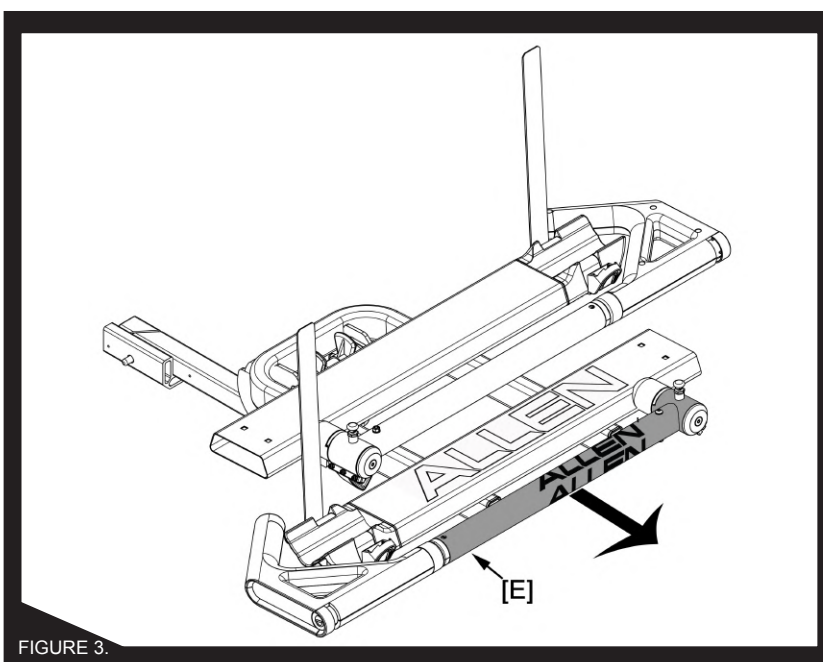

FIGURE 3.
**IMPORTANT!** As shown in Figure 3, Bike Support should be installed with Spar Arm [E] toward the open end of the U Support